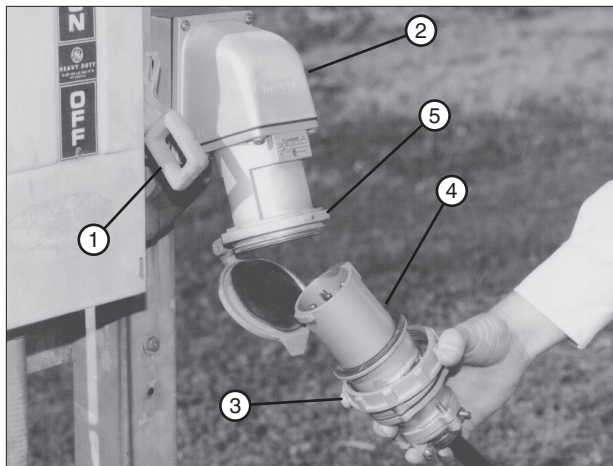

Figure 42-1 1. Disconnect Switch 2. Power Pedestal 3. Plug Cap Collar 4. Plug 5. Receptacle
- Turn the power pedestal disconnect switch to the OFF position. See figure 42-1.
- Remove plug cap from electric cord plug, and insert the electric cord plug into the power pedestal receptacle. See figure 42-1.